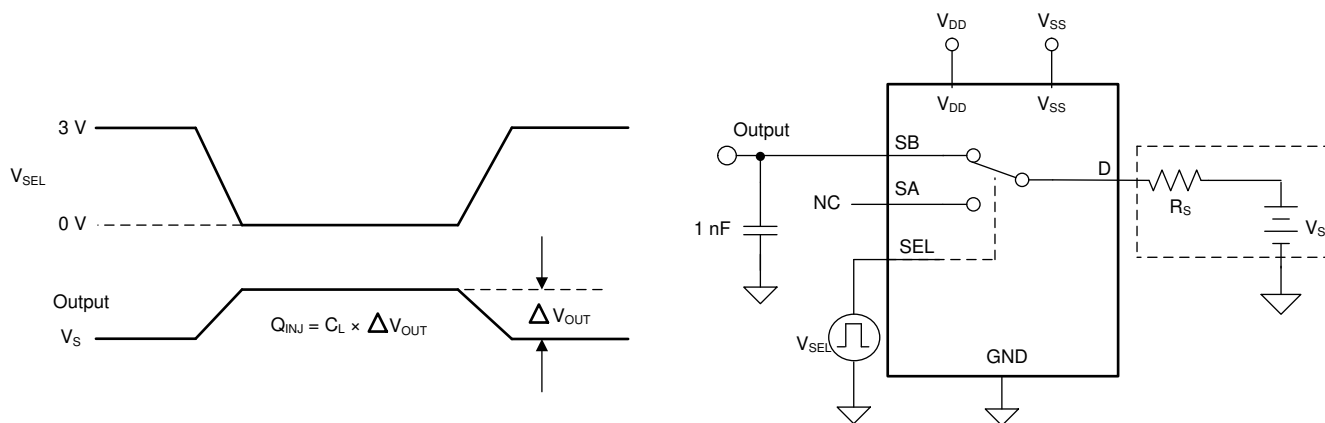

Figure 6-6. Charge-Injection Measurement Setup
The TMUX6136 have a simple transmission-gate topology. Any mismatch in capacitance between the NMOS and PMOS transistors results in a charge injected into the drain or source during the falling or rising edge of the gate signal. The amount of charge injected into the source of the device is known as charge injection, and is denoted by the symbol Q_{INJ} . Figure 6-6 shows the setup used to measure charge injection from drain (D) to source (Sx).